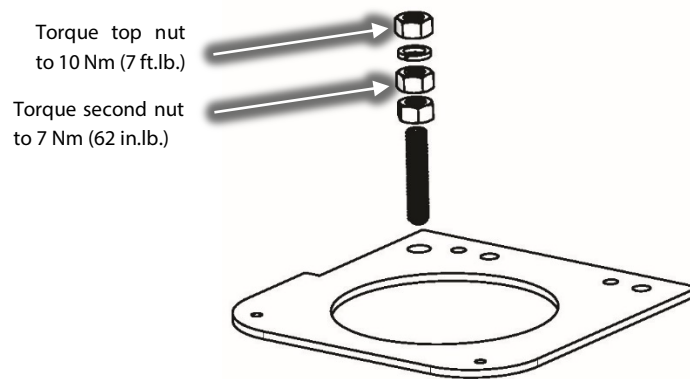

Figure 7 – Ground Nuts
8. Install the outer three (3) High-Power Feedthrough Nuts and lock washers, and torque to 13 Nm (10 ft.lb.). Be careful not to over tighten the fasteners to the High-Power Feedthroughs.
10. Reconnect the two (2) connectors to the Thermistor Sensor Feedthroughs.
15. Reroute and connect the Soft Start ground wire and other ground cables to the ground post on the compressor housing at 3 phase connection. Refer to Figure 7 (Ground Nuts) for the torque specifications.